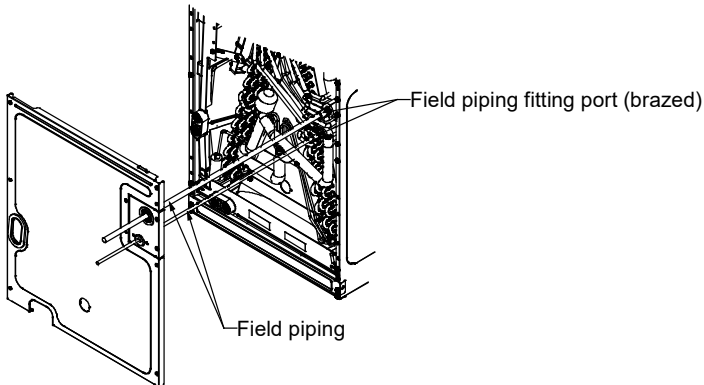

Figure 12
- Slide the front panel (lower) along the field piping until it is far enough away that it will not be affected by heat from the brazing, as shown in Figure 12.